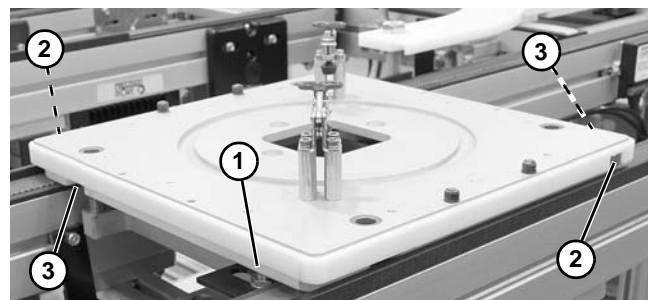

Figure 69
- One bottom (**Figure 69, item 1**) and two side flags (**Figure 69, item 2**) (when bumpers are not installed) can be used for sensing.
- Stop only has to be released long enough to clear pallet skirt that was stopped. Notches (**Figure 69, item 3**) in skirt allow stop to be reset before pallet clears stop area.